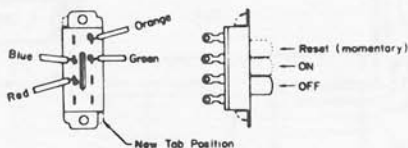

Figure 2
It has an OFF position, ON position and RESET position. The RESET position is spring loaded so that the switch returns to the ON position when it is released. See Figure 2 to wire the slide switch.
- [✓] Connect a 4" long, #24 gauge, orange wire to the switch terminal shown in Figure 2. Observe the switch positions to be sure of proper wiring.
- [✓] Connect a 4" long, #24 gauge, green wire to the switch terminal shown in Figure 2.
- [✓] Connect a 4" long, #24 gauge, red wire to the switch terminal shown in Figure 2.
- [✓] Connect a 4" long, #24 gauge, blue wire to the switch terminal shown in Figure 2.
- [✓] Straighten the two(2) metal tabs adjacent to the mounting holes as per Figure 2. Use a pair of pliers and bend the tabs until they are flush with the top surface of the switch.